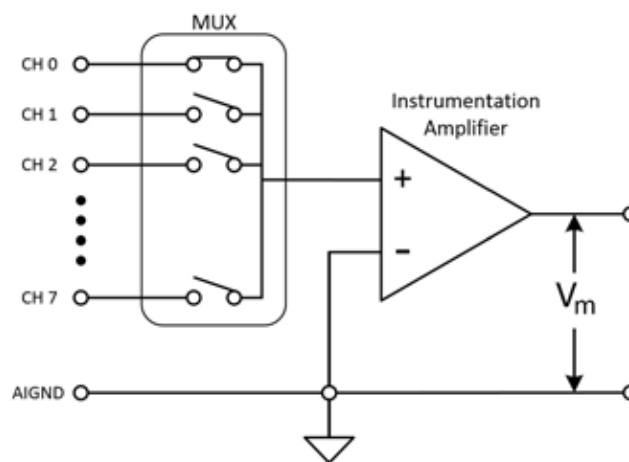

Figure 4. A GRSE or RSE system's common reference channel is connected to the instrument ground.
Single-ended configurations are commonly the default configuration for instruments. They differ from differential configurations because only one analog input channel is required for the measurement. All channels on the instrument use the negative input to the instrumentation amplifier as the common reference, which can be seen in Figure 4. Because single-ended configurations use only one input, they can take twice the number of measurements compared to a differential configuration system with the same number of physical channels. On the other hand, this leaves single-ended measurements susceptible to ground loops, which can decrease the accuracy of the measurements.
- **Ground RSE (GRSE) or RSE systems** have the common reference channel connected to the instrument ground. In the example RSE system shown in Figure 4, the instrument ground channel is labeled AI GND.